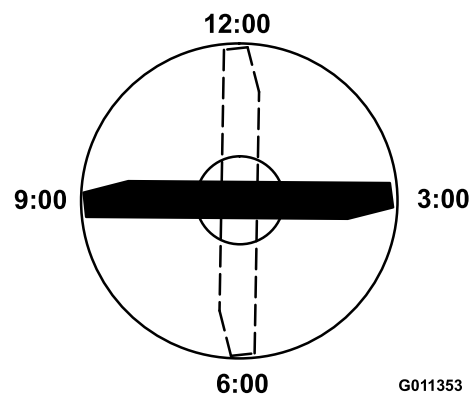

Figure 121
4. Position the cutting edge of the marked end of the blade at 12 o'clock (straight ahead in the direction of mowing) (Figure 121) and measure height from table to cutting edge of blade.
5. Rotate the marked end of the blade to the 3 and 9 o'clock positions (Figure 121) and measure the heights.